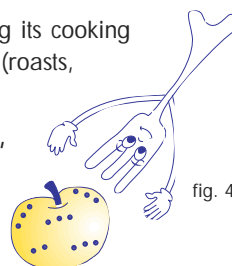

fig. 4
- 4) **Foods having a skin, shell or peel (e.g., apples, potatoes, tomatoes, frankfurters, fish) must be pierced with a fork or sharp knife in several points so as to permit steam to escape and to prevent those items from exploding (see Fig. 4).**